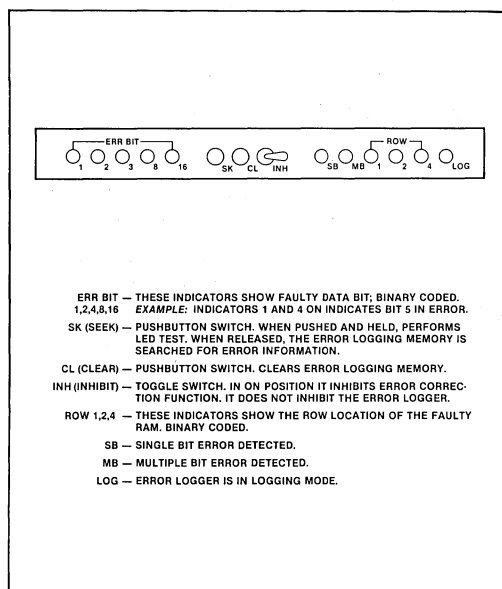

Figure 2. Error Logger Control Panel and Indicators
**Error logging** — On-line error logging is performed with or without ERCC enabled and provides enough storage to log error information for any or all dynamic RAM memory elements on the board. This feature is extremely useful, since it facilitates location of faulty memory chips and enables 'no supervision' testing without software error logging support which improves memory board maintainability. On-line operation also means that the processor does not have to stop while the error logger is being interrogated by the operator. The on-line error logging feature is easy to use (see Figure 2). Pressing the SK (seek) button on the in-5150 control panel causes the data bit error to be shown on an LED display. The LEDs indicate whether the error is single bit or multiple bit. If a single bit error has been detected, the bit that failed is indicated as well as the chip row location. If a multiple bit error has been detected, the row in which the error occurred is indicated. The latest errors are always displayed. The error logging circuit is cleared by pressing the CL (clear) switch on the control panel.